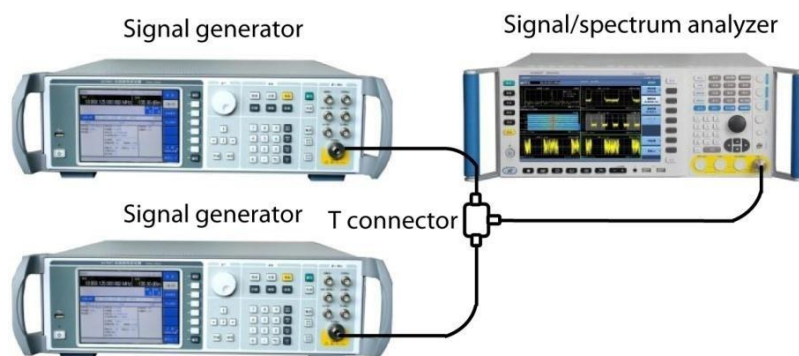

Fig. 4.7 Test instrument connection diagram of two input signals
Step 1: connect two signal sources to the RF input port of the analyzer as shown in Fig. 4.7.
In this section, a narrow resolution bandwidth is adopted to distinguish two signals with frequency interval of 50 kHz and amplitude difference of 60 dB. Output ports of two signal generators should be connected to the input port of the analyzer as shown in Fig. 4.7.